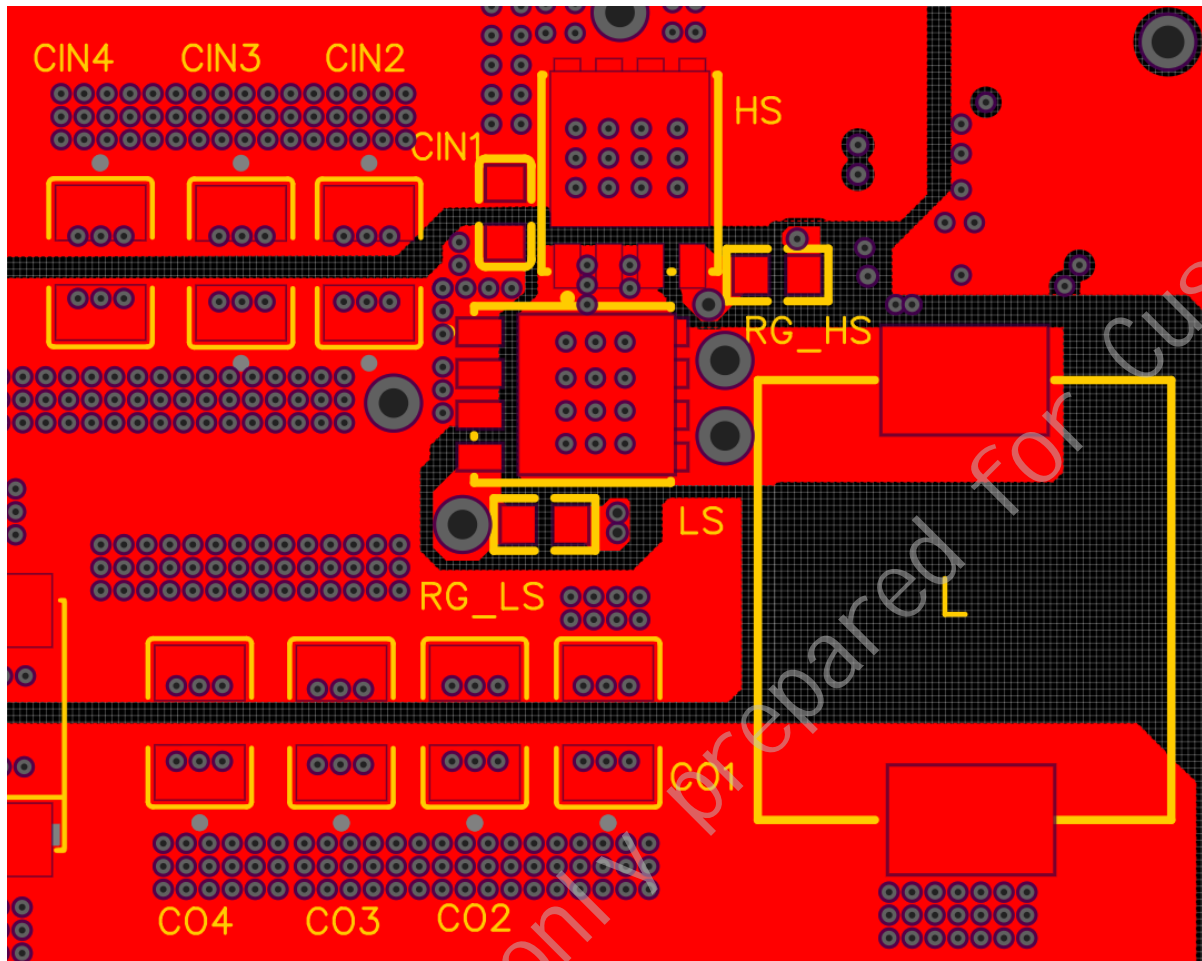

Figure 59 MK9286 Power Loop Layout Example
- Minimize the loop area formed by C_{IN} connections to VIN and GND pins, refer to Figure 59.